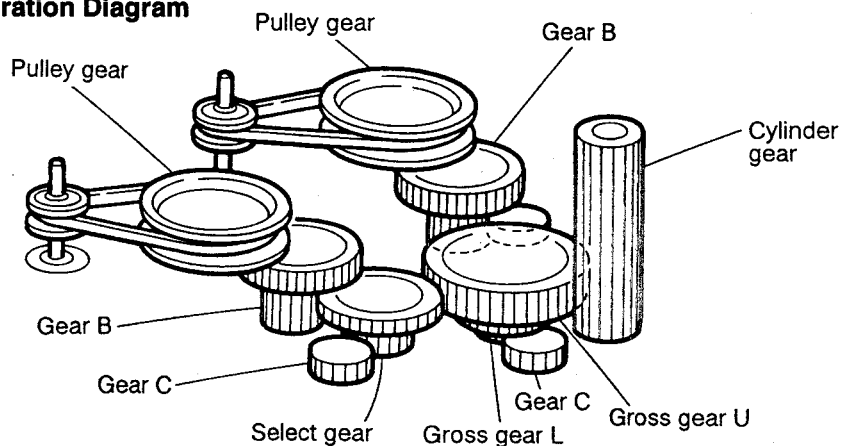

Fig.5-56
**[Note]** When the chassis assembly is turned over under the conditions wherein the gear bracket and belt have been removed, then the pulley gear as well as the gear, etc. constituting the gear unit can possibly be separated to pieces. In such a case, assemble these parts by referring to the assembly and configuration diagram in Fig. 5-56.